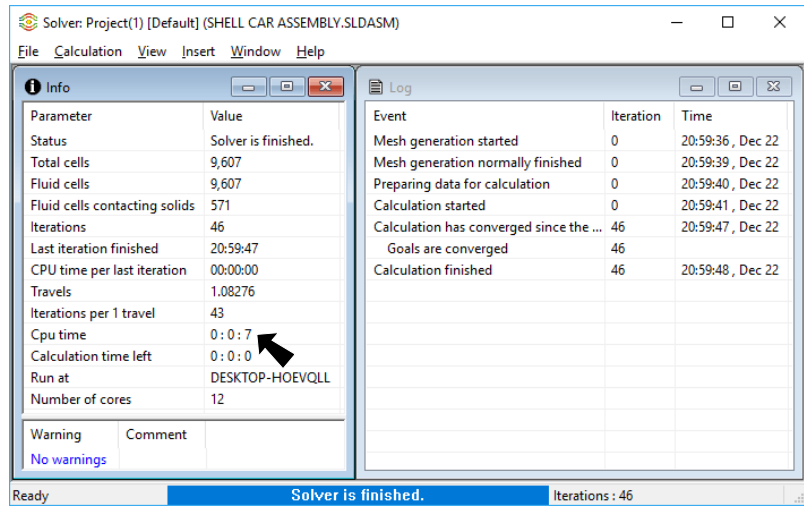

Fig. 16
Step 1. In the Solver dialog box you can view Calculation time left, **Fig. 16**. The CPU time runs around 2-3 minutes depending on the car design and the computer.